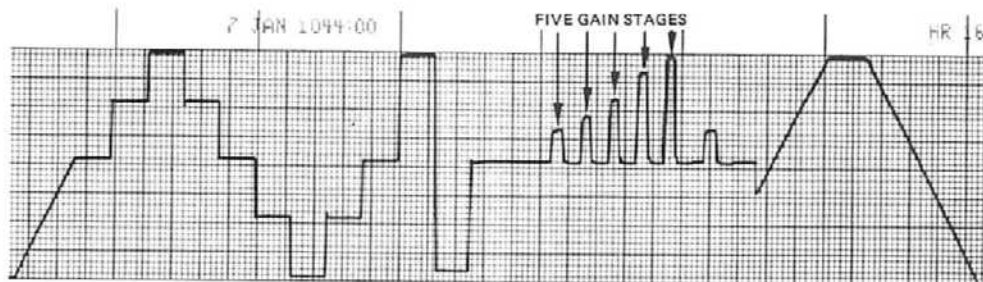

Figure 3-2. Five Gain Stages of AUTO.
4. Place the instrument in the service mode (turn the instrument OFF, pull the BEEPER VOLUME knob UP. Turn the instrument ON and quickly push the BEEPER VOLUME knob DOWN). Turn the ECG SIZE control clockwise past detent to AUTO. Observe the ramp/step waveform. Immediately following the largest step, there is a two second period of flat baseline preceding the triangular ramp. During this baseline period, quickly press the CAL button five times and observe five steps of increasing amplitude on the CRT screen. (Refer to Figure 3-2). This represents the five gain stages of AUTO and can also be observed on the Recorder if so equipped. Turn unit off to get out of the service mode.